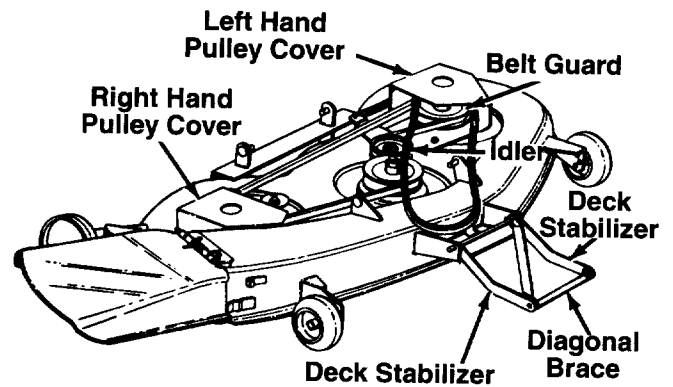

FIGURE 25.
2. Remove the left hand pulley cover by unhooking the spring and removing five self-tapping screws. See figure 25.